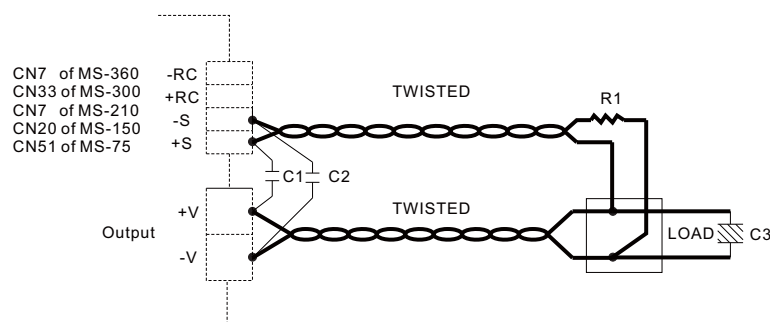

Figure 3-1 Connection for using the remote sense function
- ⊙ When using this function, the sensing wires should either be twisted or shielded to prevent external noise interference. (refer to figure 3-1)
- ⊙ If long sensing wires are necessary, then Noise Filtering Capacitors C1, C2 and C3 need to be added as figure 3-1.
- ⊙ The power supply unit may become unstable due to the difference in wire impedance and load current. The addition of C1, C2, C3 and R1 shown in figure 3-1 may help improve output voltage stability. Please contact MEAN WELL for more detail specification of these components.